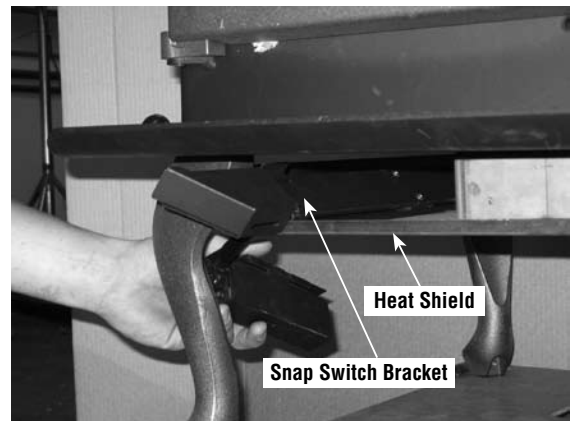

Figure 27
Step 2. Insert snap switch bracket between the heatshield and the bottom of firebox making sure entire assembly is on the left side of the heatshield bolt. Slide back until the notch on the bottom front of the bracket falls into the lip on the front of the heatshield, and assembly is parallel with side of firebox. See *Figures 27 and 28*.